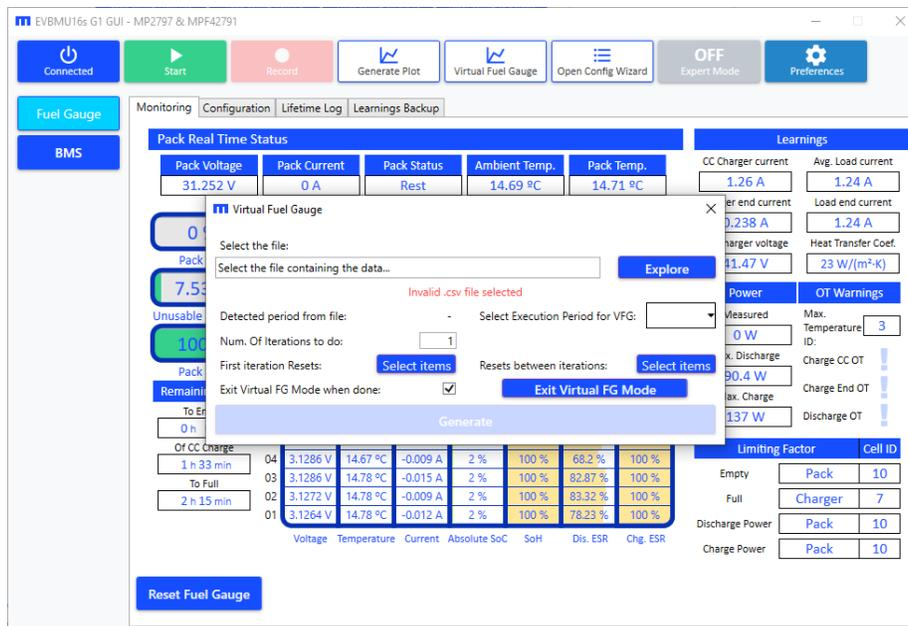

Figure 57: Virtual Fuel Gauge Main Menu
2. The Virtual Fuel Gauge window should open (see Figure 57).